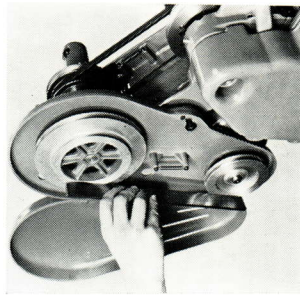

Fig. 12
- m** Place the motor pulley in position on the motor shaft with the larger diameter outwards, but do not secure. Holding a 'straightedge' firmly against the two step countershaft pulley, line up the motor pulley to it, checking that the face of the motor pulley is parallel to it. (Fig. 12.) If it is not, it will be necessary to reposition the motor on its base. When the pulleys are in line, lock the socket set screw to secure the motor pulley.
- n** Place the headstock belt guard (11) in position and adjust the pivot screws (QR58). Remove all traces of play but do not overtighten, as this would strain or even crack the guard. N.B. To obtain access to the left hand screw (looking on the front of the machine) through the hole provided in the motor drive guard backplate, the latter may have to be temporarily repositioned. Next, remove the split pin, which was inserted during packing, to release the roller and plunger assembly.